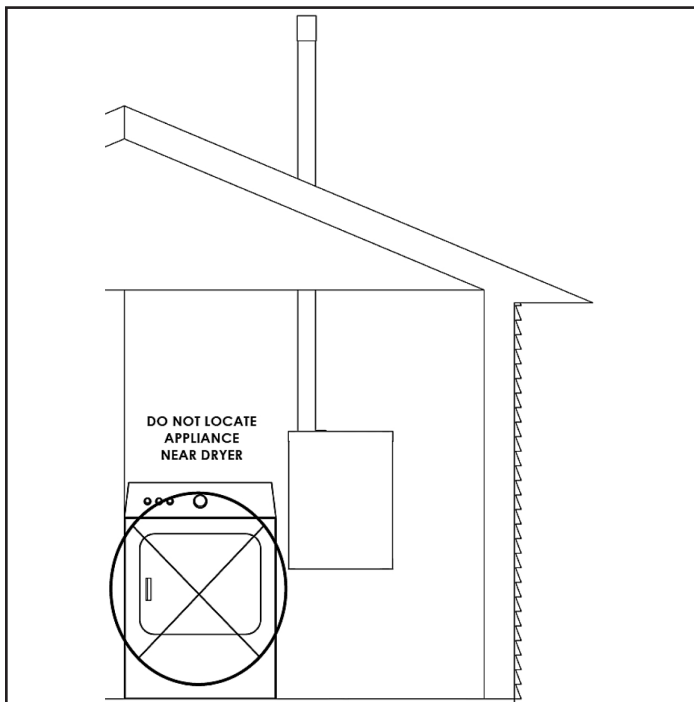

Figure 22 - Do Not Place Appliance Near Dryer
**Never obstruct the supply of combustion air to the water heater.** If the water heater is installed in areas where indoor air is contaminated (see Figure 22) it is imperative that the water heater be installed as direct vent so that all combustion air is taken directly from the outdoors into the water heater intake connection.